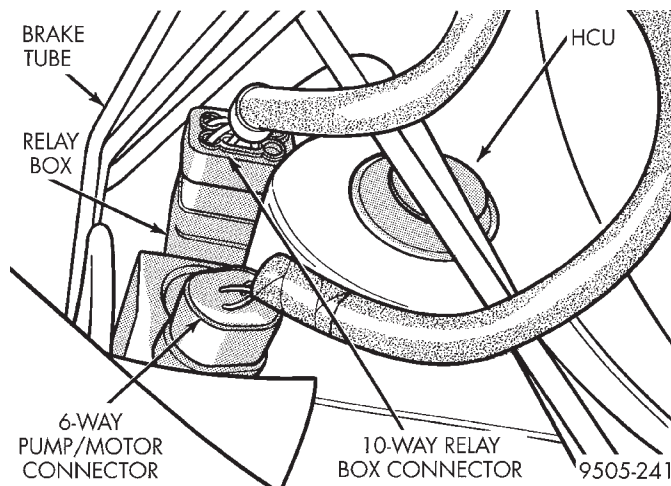

**Fig. 17 Electrical Connections At HCU And Relay Box**
(9) Disconnect the 6 way connector from the HCU wiring harness and the 10 way connector from the relay box located on the HCU (Fig. 17).
(7) Install the 6 way connector on the HCU wiring harness and the 10 way connector on the relay box of the HCU (Fig. 17).